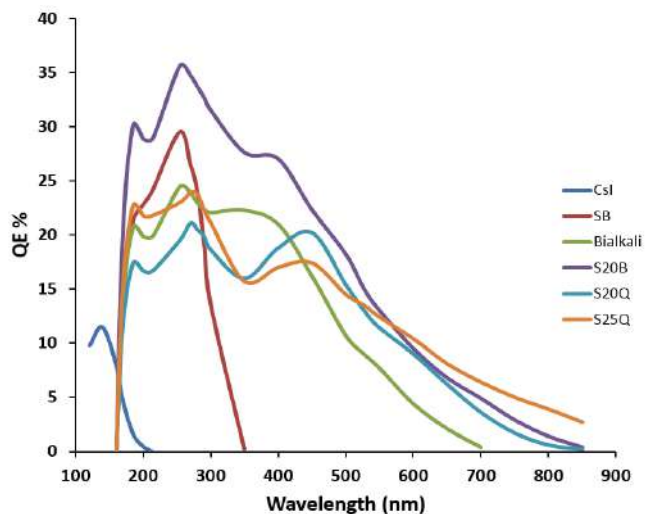

Figure 3: Spectral response of available photocathodes. Note that the underlay on the cathode can affect the QE.
photocathode material also determines the spectral response and sensitivity of the image intensifier. Common types of photocathodes and their spectral responses are given in Figure 3.
2. Quantum Efficiency measured at stated peak wavelength with no gating under-layer, see Figure 3 for wavelength dependence and Table 3 for gating options.
where $G_Y(\lambda_{max})$ and $QE(\lambda_{max})$ are given in Table 4, $QE(\lambda)$ is taken from Figure 3 and $\eta_{phosphor}$ is the relative efficiency from Table 1.